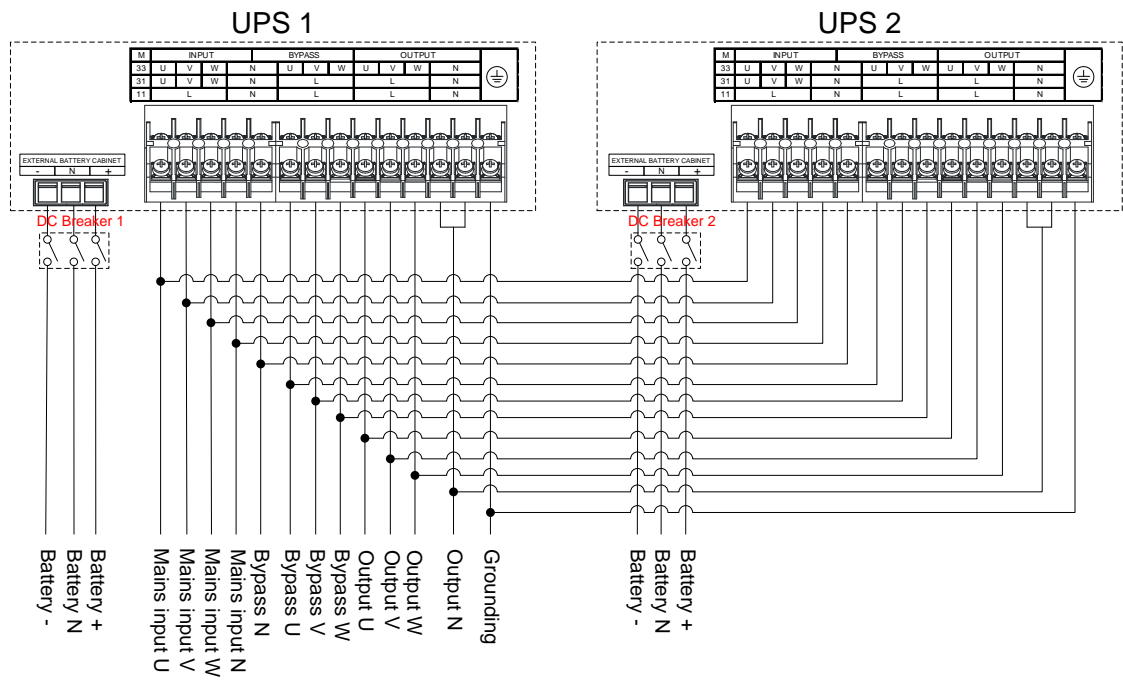
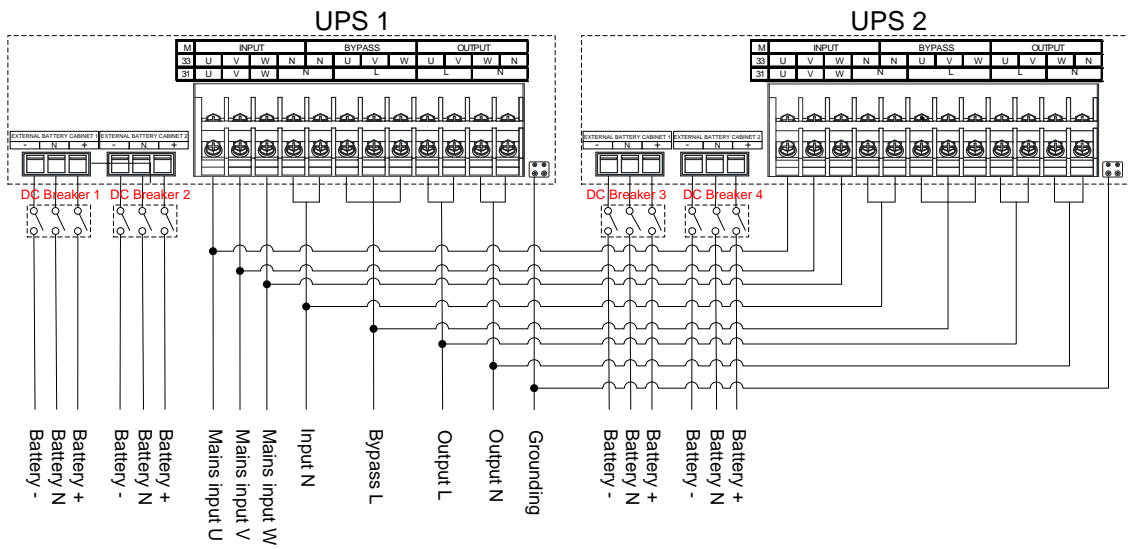

Figure3-29 33 mode parallel system wiring diagram of 10/10S/10T/15/15S/15T/20/20S/20T
Figure3-33 31 mode parallel system wiring diagram of 30/30S/30T/40/40S/40T
- Step 2 Connect the wires of input, bypass, output and battery in parallel system on the basis of Figure3-29 to Figure3-33.